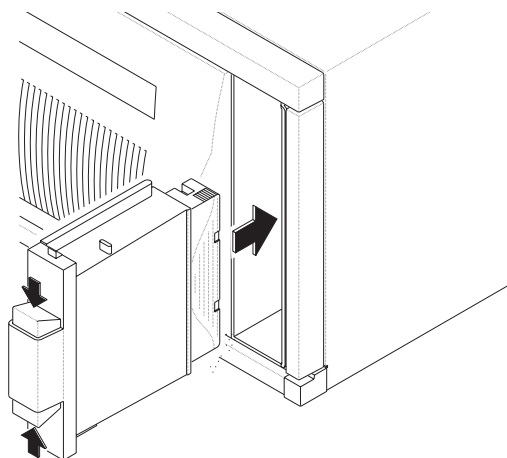

Figure 4-7 Reinserting the entry/exit port caddy
8. Press the top and bottom buttons on the entry/exit port caddy, then insert the caddy back into the entry/exit port, as shown in Figure 4-7. Make sure the cartridge's write-protect switch is at the bottom.